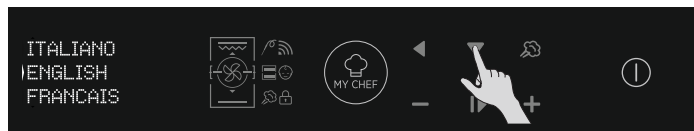

Figure 5
- Please enter in the settings section and select the language from the drop down menu (Figure 5).